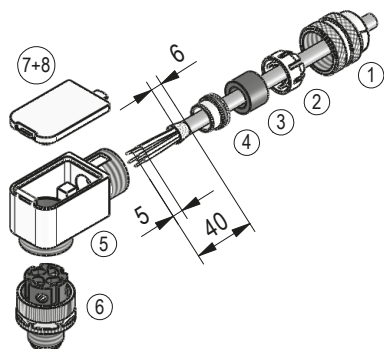
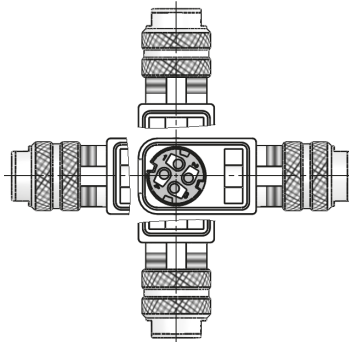

Fig. 9: Right angle mating connector M12
Fig. 10: Angled positions
- Accessory SIKO art. no. "87600" M12 D coded (plug pin 4 pole Ethernet Port 1 (IN) + Port 2 (OUT)) (Fig. 9, Fig. 10).
## Mounting (Fig. 9)
## Changing the angle position (Fig. 10)